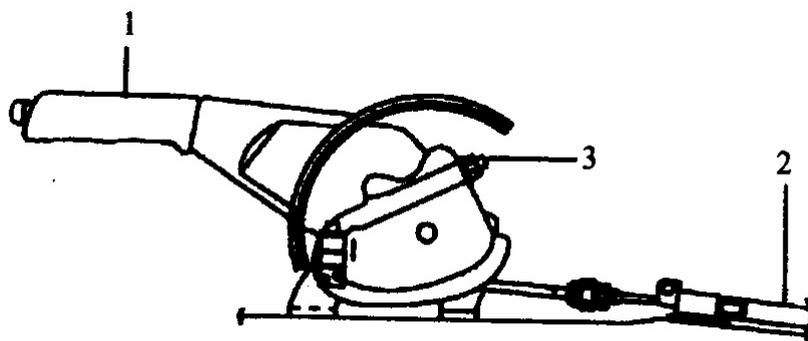

FIG.16-69 1.Parking brake lever 2.Parking brake cable 3.Adjust nut
(2) If the parking brake lever does not have the specified travel, adjust according to the following method:
① Loosen adjust nut, and keep parking brake cable free.(FIG.16-69)